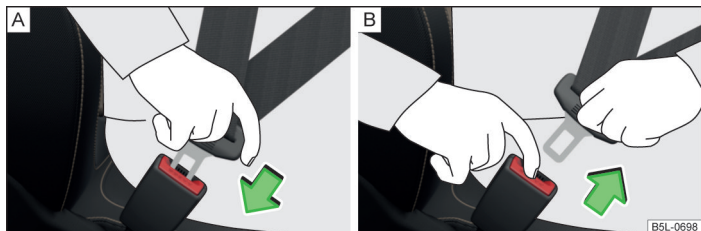

Fig. 138 Fastening/unfastening the seat belt
- › Insert the lock tongue into the belt buckle for the seat until audibly it clicks into place » Fig. 138 - A.
- › Press the red button in the belt buckle » Fig. 138 - B, the lock tongue pops out.